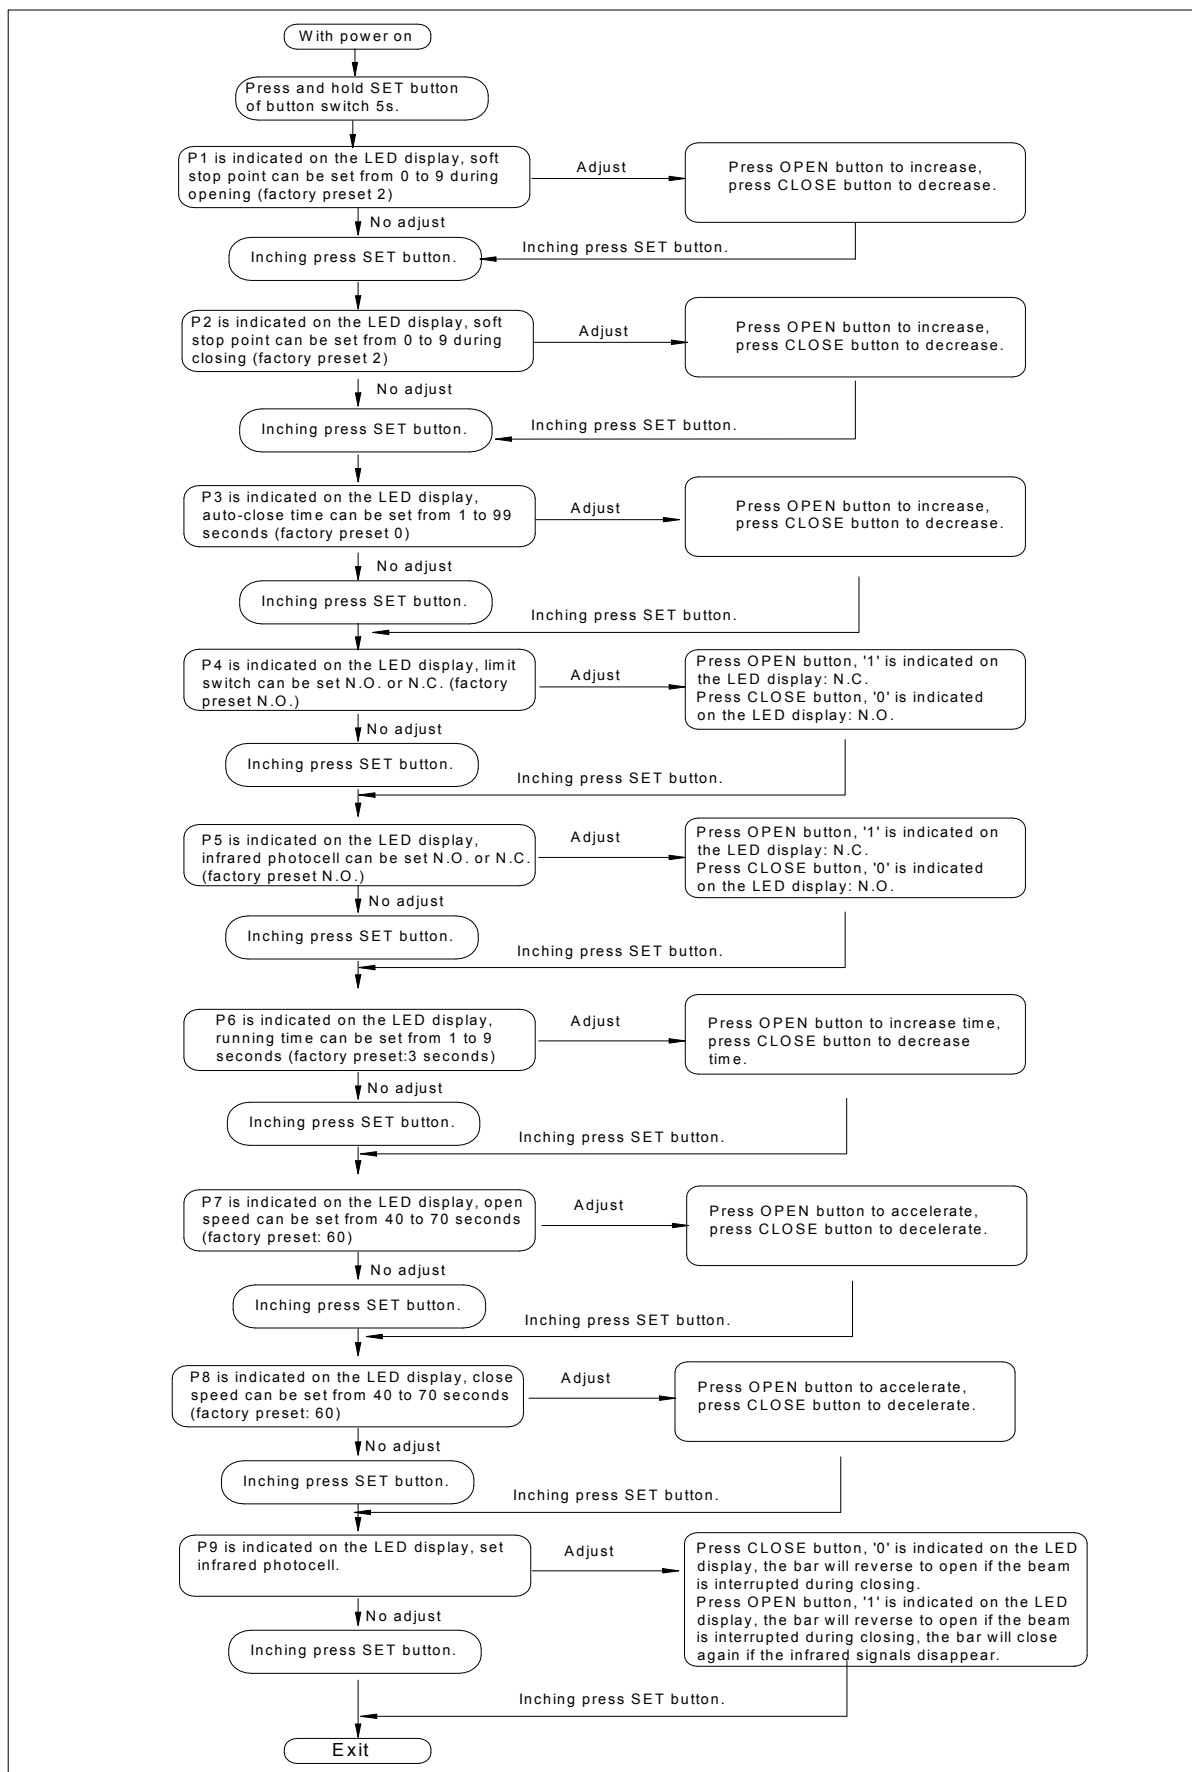

Fig.8 Programming
It also can be set to N.C. See Fig.8.
- It also can be set to N.C. see Fig.8.
Motor	Adjust the motor, see Fig.8 P1/P2, P7/P8